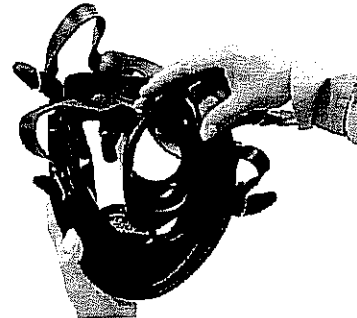

FIGURE 15
For the 5400 Series, Remove the Oral/Nasal Cup by pulling it from the mask, push and twist the exhalation housing assembly counterclockwise and remove. (See Figures 15 and 13A.)
- c) Remove the oral/nasal cup assembly by pulling it from the mask. (See Figure 15.)
- 5) For the 5400 Series, remove the Oral/Nasal cup by pulling it from the mask, push and twist the exhalation housing assembly counterclockwise and remove. (See Figures 15 and 18.)